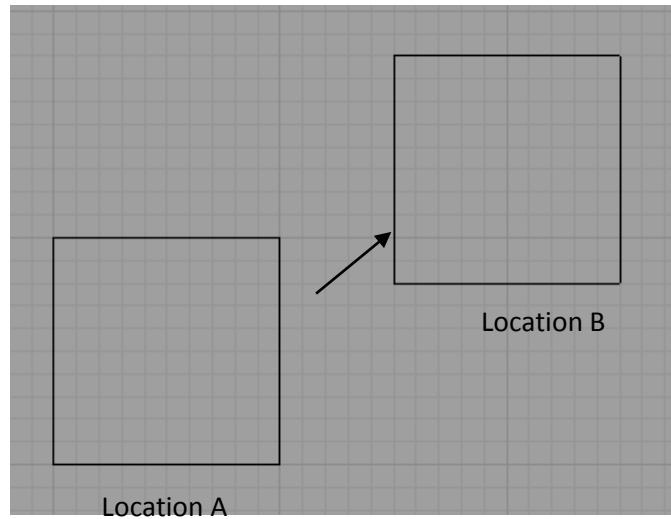

Figure 21. Moving an object.
1. **Move:** This tool is used for moving an object from one location to another. Let's take an example as shown in Figure 21. A rectangle in location A needs to moved to location B.